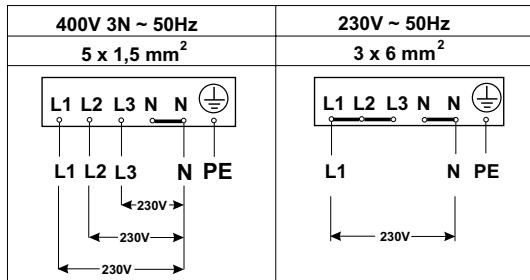
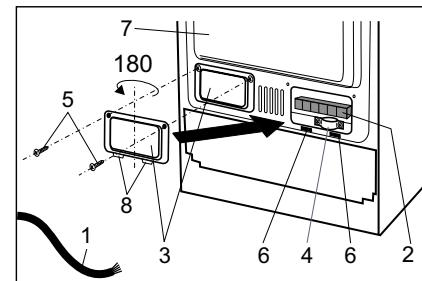

Fig. 7
Fig. 8
- The terminal strip is located on the cooker rear wall and has six screwed cable clamps, including three phase clamps identified with symbols L1 – L2 – L3, and two neutral terminals identified with symbols N – N (fig. 7), which should be shorted. The short-circuiting switches, three items, are enclosed with the terminal strip. The protective earthing terminal is marked with the symbol .
- Connect the AC power cable 1 (Fig. 8) to the terminal strip 2 in accordance with the data plate (fig. 7). Place the lead in clamping ring 4. The gaps under openings 6 give access to the screws fastening cable 1 in clamping ring 4.